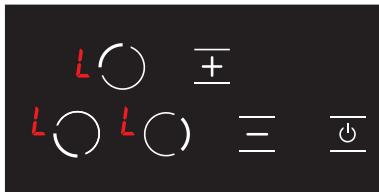

Figure 21
1. The L icon is displayed on all displays when the stove is on and the child lock is active. (see Fig. 21) The L and H icons are displayed alternatively if any hob is hot. You may turn the stove on or off with the \odot key only.